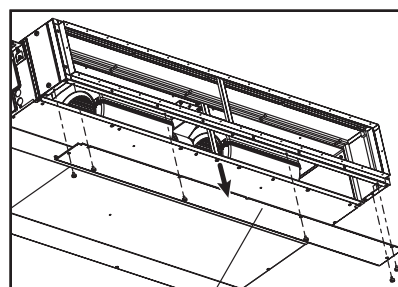

Fig.3-2-1
- (1) Remove the under panel from the filter box. (Fig. 3-2-1)